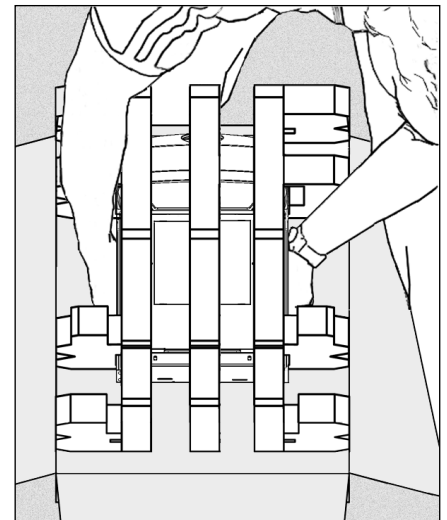

Figure 15
4. Lift the scanner out of the box by carefully grasping both sides near the center of the unit and lifting directly up. Refer to Figure 15 for hand placement.